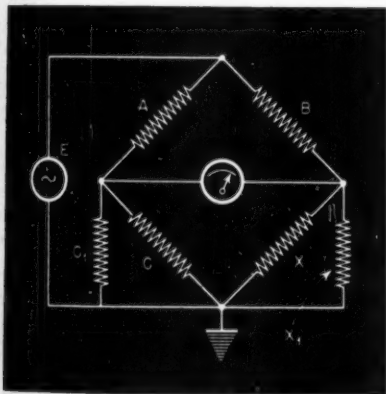

Fig. 1.
**Solution:** In the bridge circuit shown in Fig. 1,  $A$  and  $B$  are the fixed ratio arms,  $C$  the variable ratio arm,  $X$  the unknown arm to be measured,  $C_1$  and  $X_1$  the stray impedances.